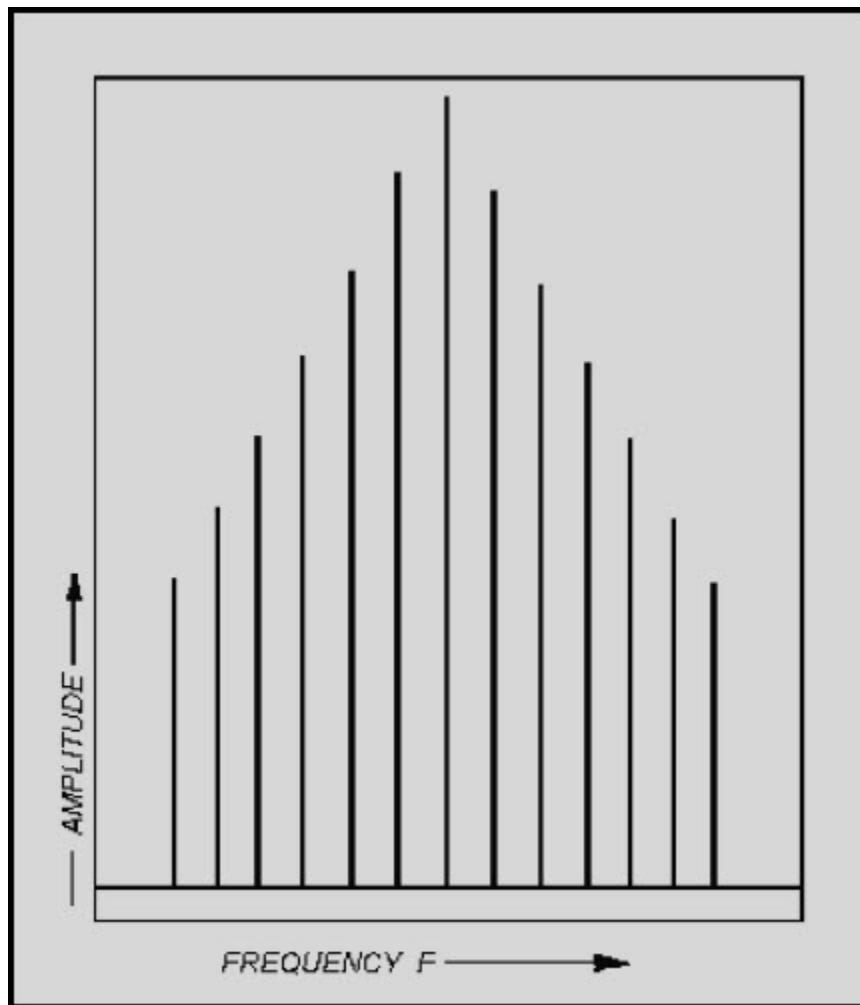

Figure 2-14 Spectrum analyzer pattern
The SPECTRUM ANALYZER is a device that sweeps over a band of frequencies to determine (1) what frequencies are being produced by a specific circuit under test and (2) the amplitude of each frequency component. To accomplish this, the spectrum analyzer first presents a pattern on a display. Then the relative amplitudes of the various frequencies of the spectrum of the pattern are plotted (see figure 2-14). On the vertical, or Y axis, the **amplitudes** are plotted; on the horizontal, or X axis, the frequencies (time base) are plotted. The overall pattern of this display indicates the proportion of power present at the various frequencies within the SPECTRUM (fundamental frequency with sideband frequencies).